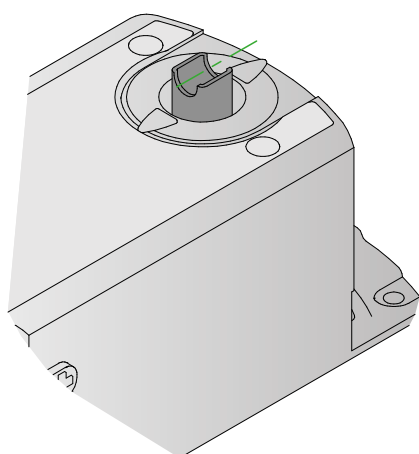

Figure 14. Recess in the damper spindle indicates the position of the damper.
- Note! Positioning of the damper blade and locking strip, see figures 14 and 15.